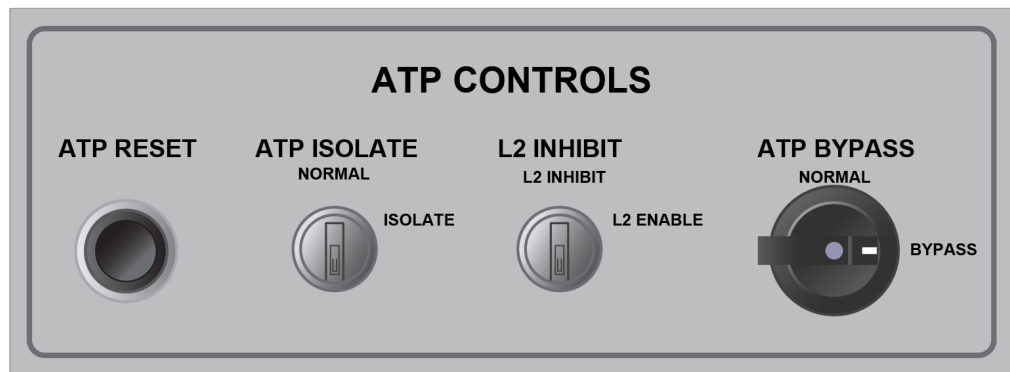

FIGURE 1: ATP controls
- an ATP control panel in Locker 7 (see Figure 1)